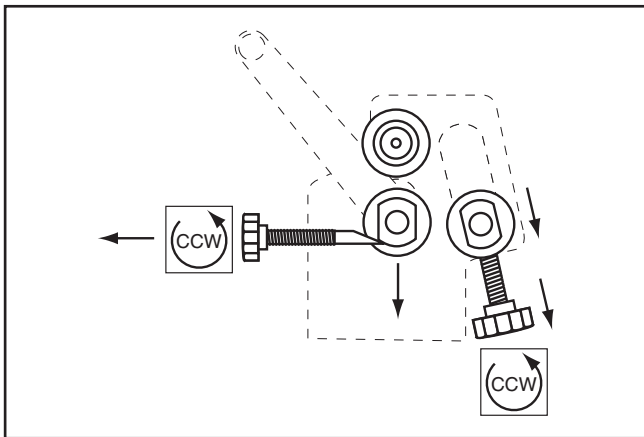

Figure 12. Slip roll preparation.
1. Turn the thickness adjust knob to lower the bottom roller to approximately $\frac{1}{4}$ " below the top roller. Use calipers or a spacer to set the distance between the rollers evenly at each end (**Figure 12**).
2. Lower the rear roller until it is approximately even with the bottom roller (**Figure 12**). Use calipers or a spacer to set the distance between the rear roller and top roller evenly at each end.